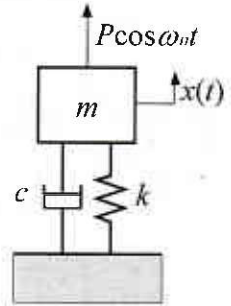

図2, Figure 2
- (1) 物体の運動方程式を示せ。
- (2) $t = 0$ の時の変位を0, 速度を v_0 とするとき、系の自由振動を求めよ。
- (3) 図2のように、物体に外力 $P \cos \omega_n t$ が加わる時、強制振動の振幅を求めよ。
- (1) Derive the equation of motion for the object.
- (2) Let the displacement and velocity at $t = 0$ be 0 and v_0 , respectively. Find the free vibration of the system.
- (3) As shown in Figure 2, when an external force $P \cos \omega_n t$ is applied to the object, determine the amplitude of the forced vibration where $\omega_n = \sqrt{k/m}$.